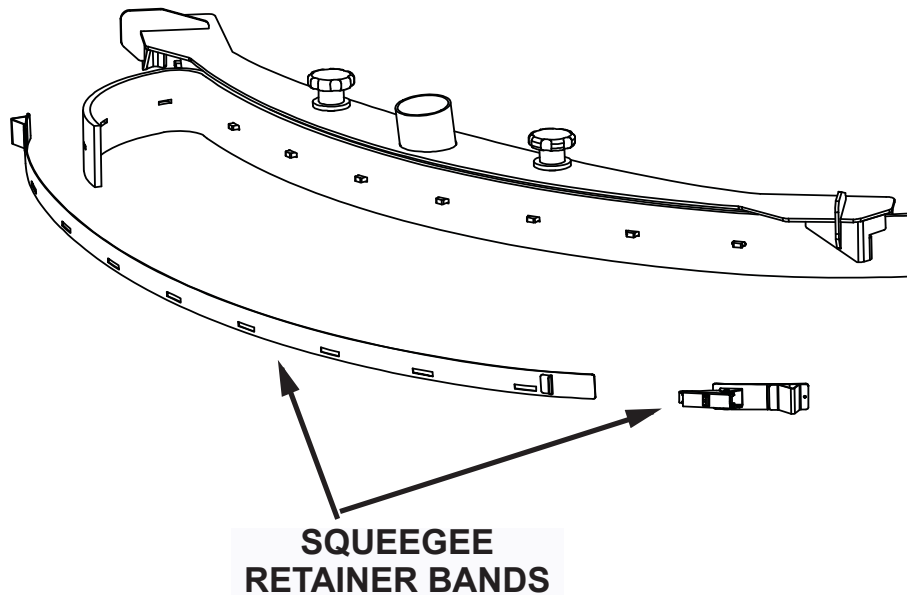

Fig. 2: Squeegee Retainer Bands
7. Remove the squeegee retainer bands. (See Fig. 2)